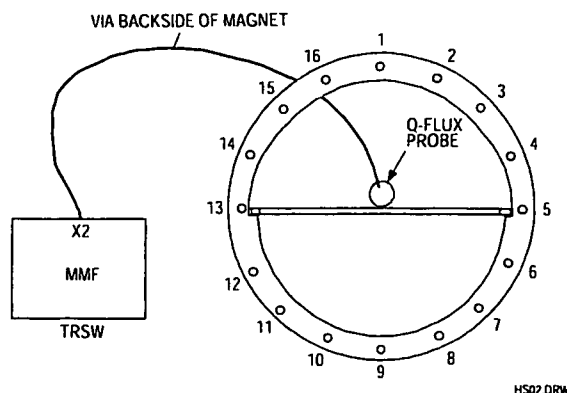

Figure 5 Connection of the Quadrature flux probe (Front View)
16. Connect a 50 ohm coaxial cable between tune A at connector MMFX2 and the quadrature flux probe. See Figure 5.
2. Connect a cable between tune A at connector MMFX2 and the quadrature flux probe. See Figure 5.